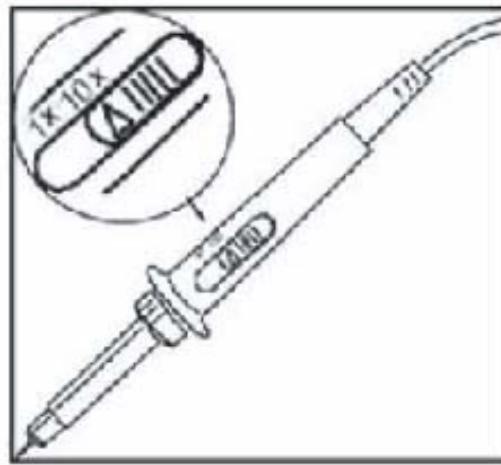

Figure 1-5 Setting of Probe Attenuation Rate Switch
- 1) The oscilloscope has two input channels with an additional external trigger input channel. Please check the signal according to the following steps. Connect a probe to CH1 input terminal and set the attenuation rate switch on the probe as 10× (Figure 1-5)